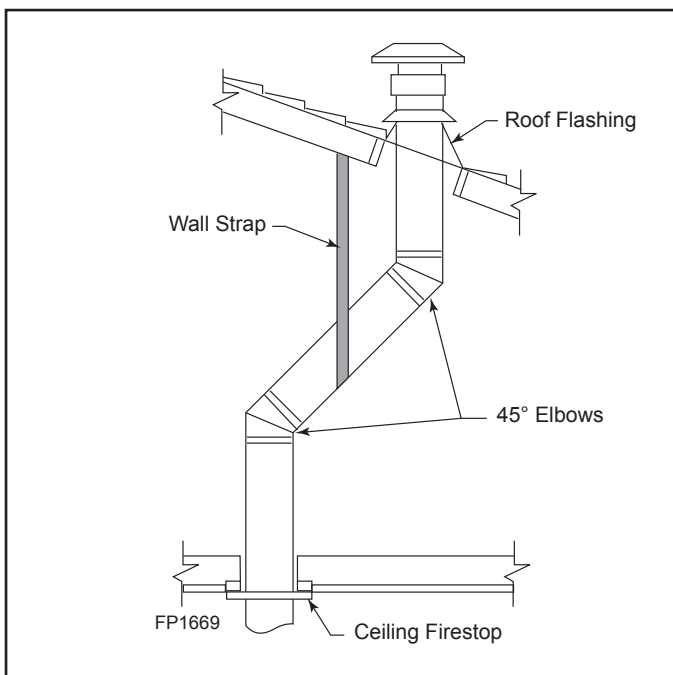

Figure 5.14 Offset with Wall Strap and 45° Elbows
1. Cut a 10½" (267 mm) square hole in the ceiling using the locating hole as a center point. The opening should be framed to 10½"x10½" (267 x 267 mm) inside dimensions as shown in Figure 5.16 using framing lumber the same size as the ceiling joist. If the area above the ceiling is an insulated ceiling or a room, nail firestop from the top side. This prevents loose insulation from falling into the required clearance space. See Figure 5.14. Otherwise, install firestop below the framed hole. See Figure 5.16